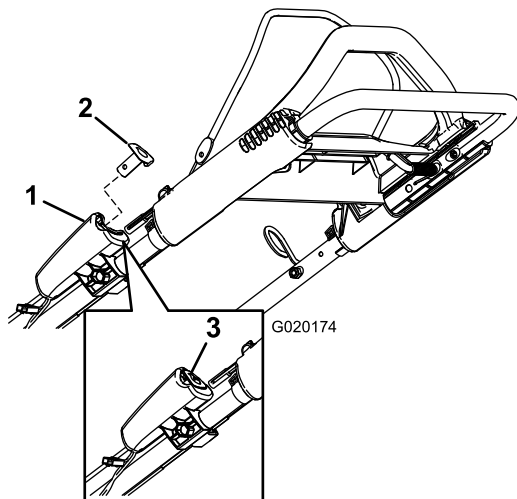

Figure 17
2. Push the electric-start button until the engine starts (Figure 17).
**Note:** If the electric-start button has been removed, insert it in the electric starter; refer to Figure 17.